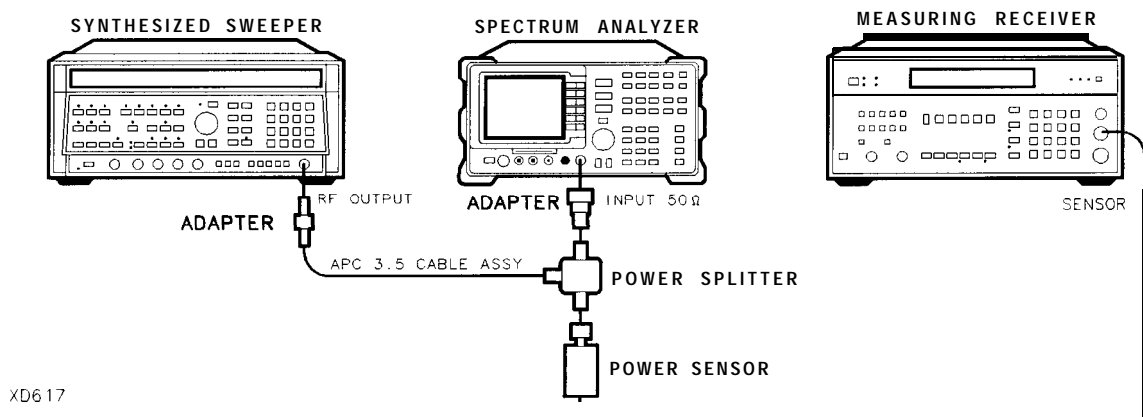

Figure 2-34. Frequency Response Test Setup,  $\geq 50$  MHz
2. Connect the equipment as shown in Figure 2-34.